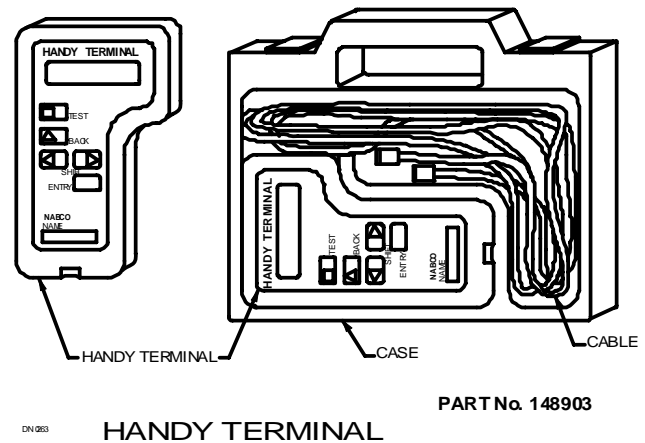

Figure 1
B. The Companion Handy Terminal is used to make controller adjustments quick and easy. The Handy Terminal is powered directly from the Microprocessor, eliminating the need for batteries. (See Figure 1).